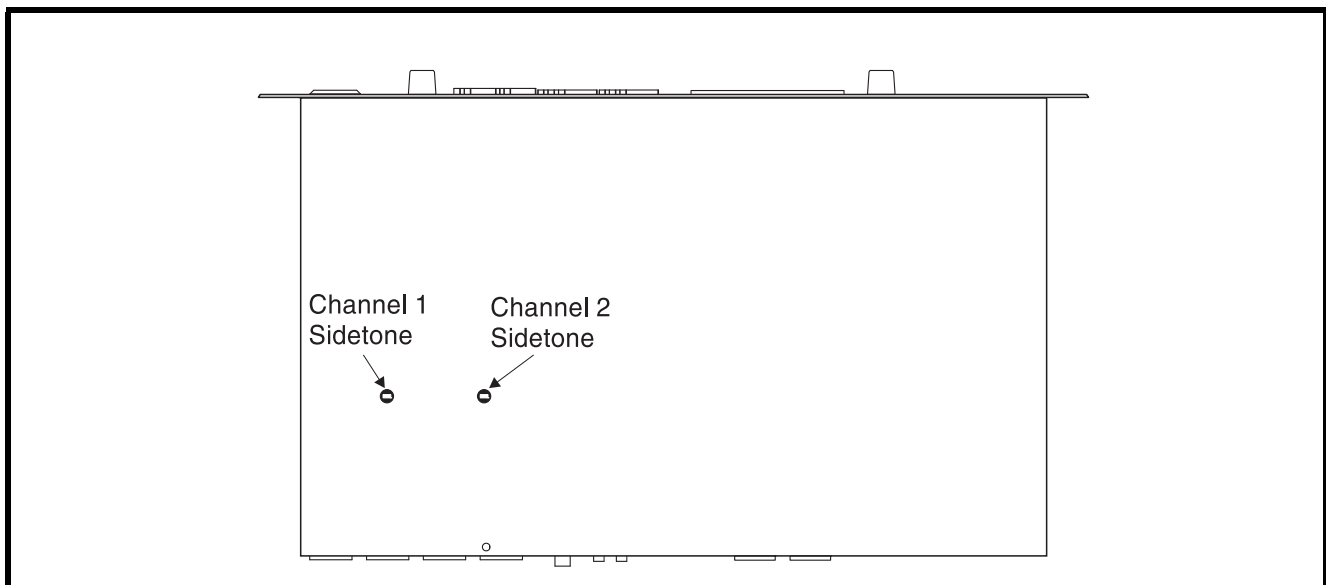

FIGURE 8. MS-2002 Bottom View
The MS-2002 uses full-duplex audio (the same as a conventional telephone line) where the talk and listen audio are sent and received on the same line. When you talk on a channel, you also hear your own voice back in the speaker or headphones. This is called sidetone. If you are using the MS-2002 with a microphone and speaker, sidetone could cause unwanted feedback, since the microphone may pick up your returned voice audio and reamplify it. This could also happen if you are using a headset when the ear cushions do not completely cover the ears, although it is probably much less likely. In either of these cases, you should minimize the amount of sidetone. On the other hand, if you are using headphones that completely enclose the ears, a certain amount of your own voice level is desirable to overcome the muffled sensation when talking. See Figure 8 on page 10, for the adjustment locations.
4. Using a small, flat-bladed screwdriver, adjust the **channel 1 sidetone** through the access hole in the bottom of the MS-2002 (Figure 8) to minimize the tone volume.